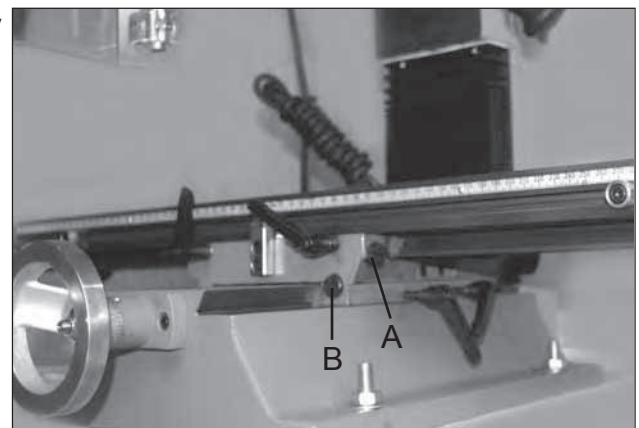

Fig. 17
1. The cross table is using the adjustment (A, Fig. 17) to set. The setting of the Longitudinal table is using the adjustment (B, Fig. 17) .